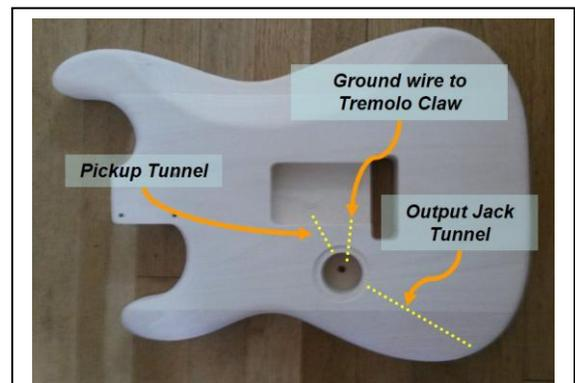

Figure 2.3 Body Tunnels
1. From the front of the Body, carefully run the Pickup shielded pickup wire through the tunnel between the Pickup pocket and the Volume control pocket (Fig. 2.3), ensuring that the pickup is flush against the Body;